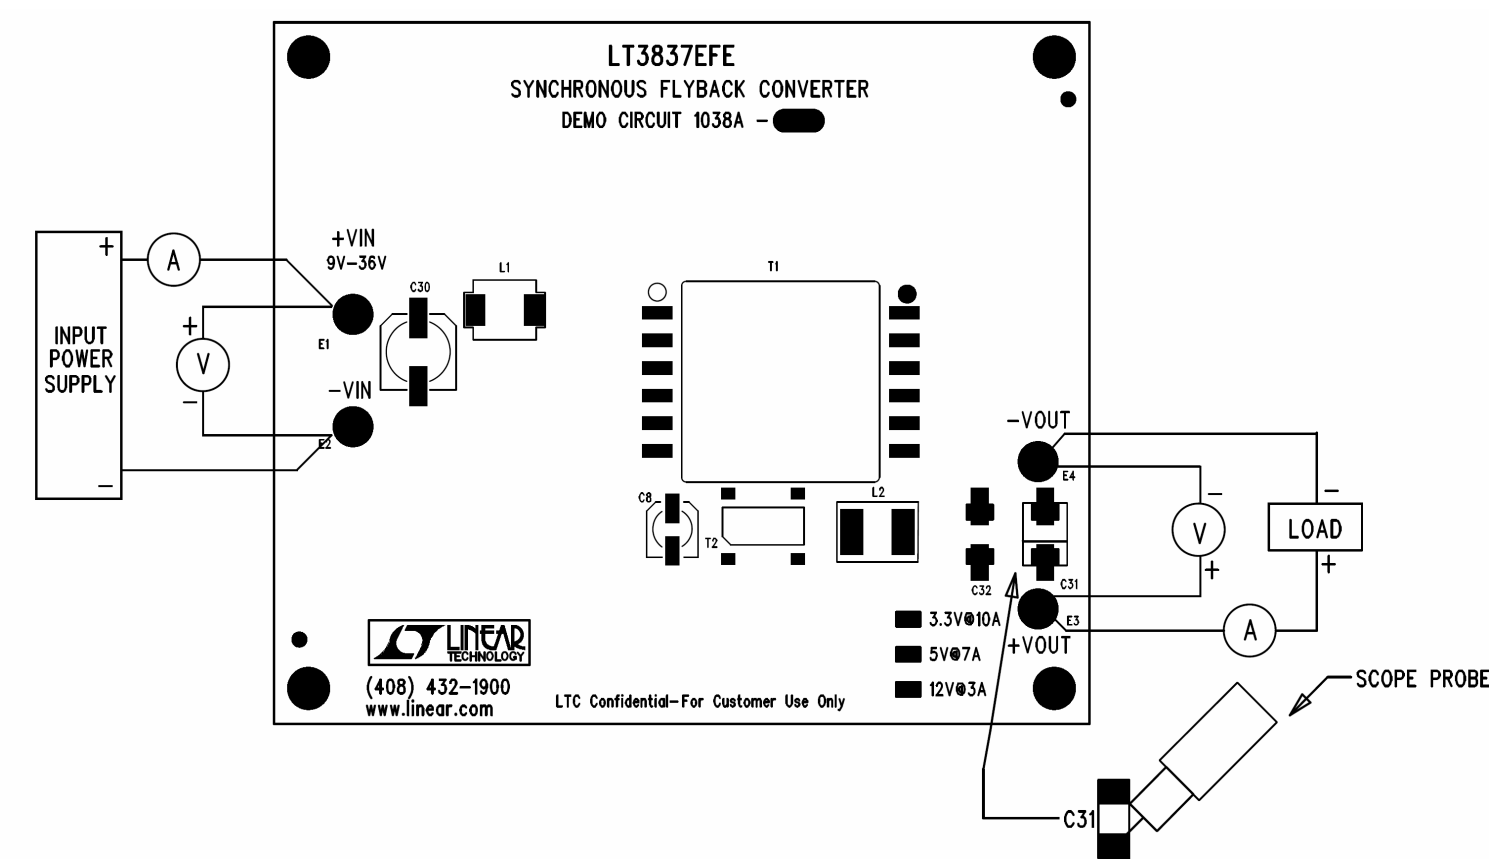

Figure 1. Proper Measurement Equipment Setup
Demonstration circuit 1038 is easy to set up to evaluate the performance of the LT3837. Refer to Figure 1 for proper measurement equipment setup and follow the procedure below:
**NOTE.** When measuring the output voltage ripple, care must be taken to avoid a long ground lead on the oscilloscope probe. Measure the output voltage ripple by touching the probe tip and ground ring directly across the last ceramic output capacitor as shown in Figure 1.